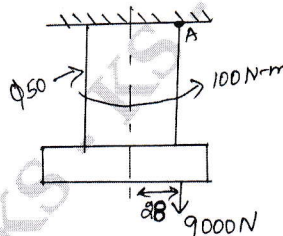

Fig.Q2(b)
- b. A 50mm diameter steel rod supports 9 kN load and in addition is subjected to a torsional moment of 100 N-m as shown in Fig.Q2(b). Determine maximum tensile and maximum shear stress.